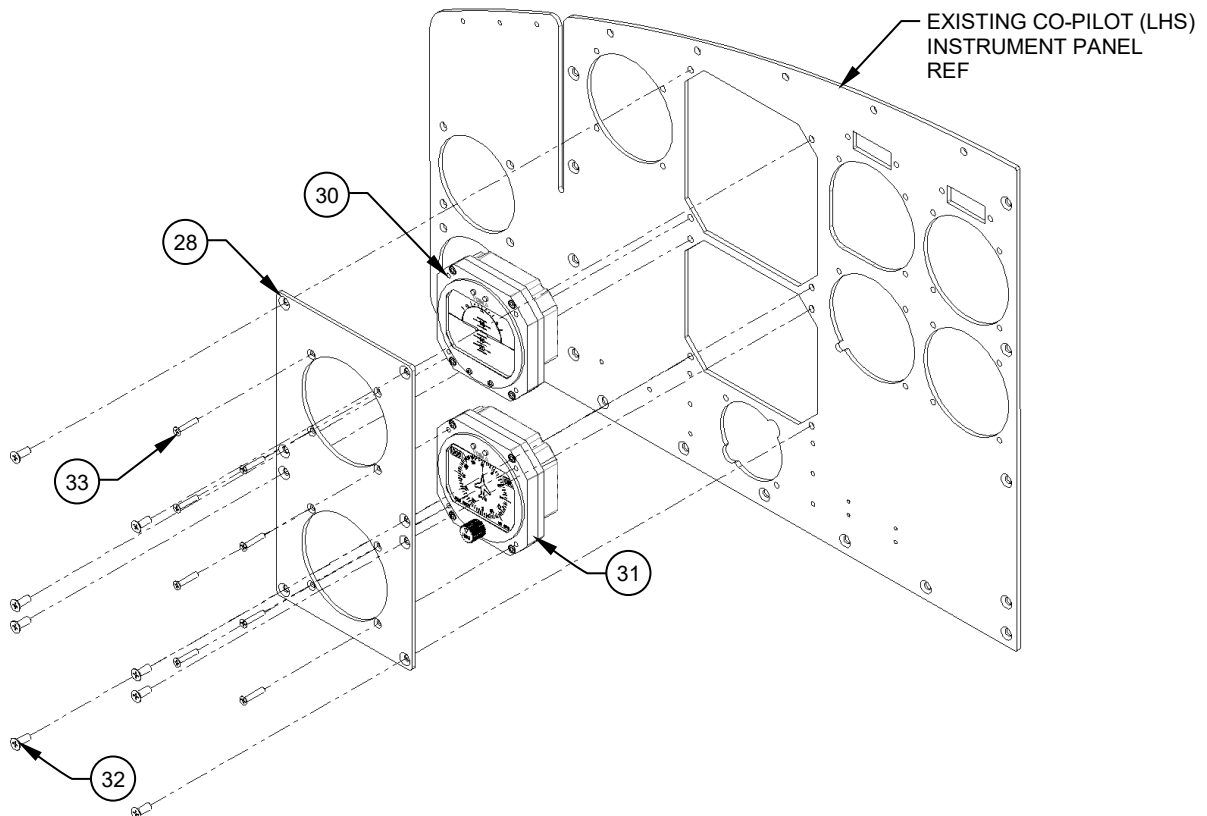

Figure 4
- Remove all fasteners (Item 32) common to the Adaptor, Detail (Item 28) and remove the Adaptor, Detail, the Attitude (Item 30) and Heading Indicators (Item 31) as a unit. If installed on an aircraft with a serial number of 30596 or earlier, remove Adaptor, Detail (Item 29) with the Attitude Indicator as a unit. Remove the Heading Indicator directly from the existing instrument panel. Reference Figure 4.